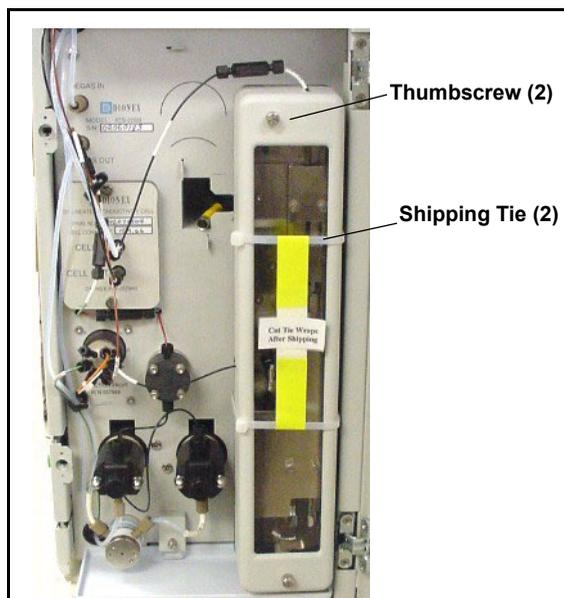

Figure B-17. ICS-1500 Column Heater Setup
1. Cut off the two shipping ties from the column heater and remove them (see Figure B-17).